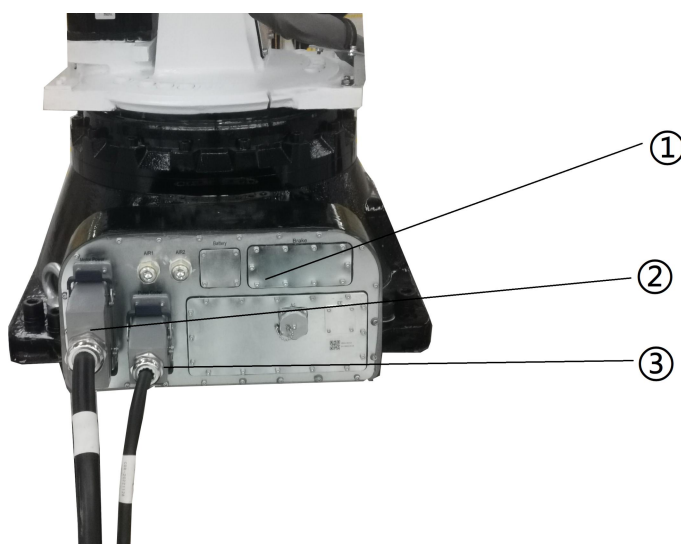

Figure 22 Connecting to the robot
The XBC5E series control cabinet comes standard with a next-generation heavy-duty connector. Please connect the robot relay cable as shown in Figure 22. Item 1 in Figure 22 is the wiring panel on the rear side of the robot base, item 2 is the heavy-duty connector of the relay cable's power line, and item 3 is the heavy-duty connector of the relay cable's encoder line.